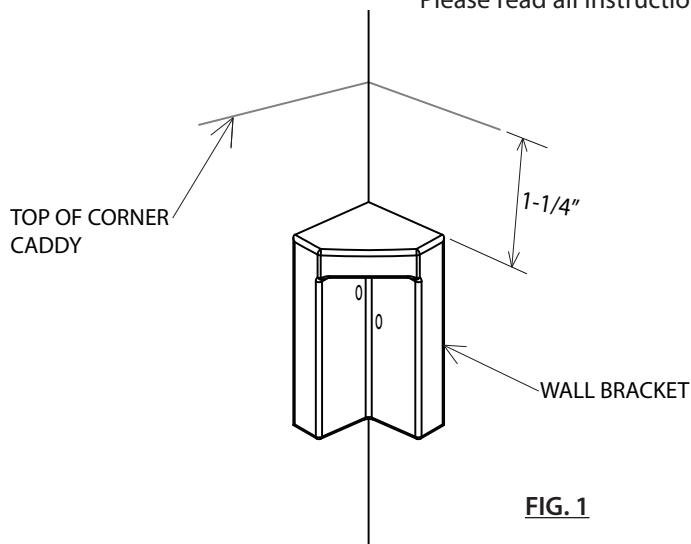

FIG. 1
3. From height placement, measure down 1-1/4" for placement of the mounting bracket. *See Figure 1.*